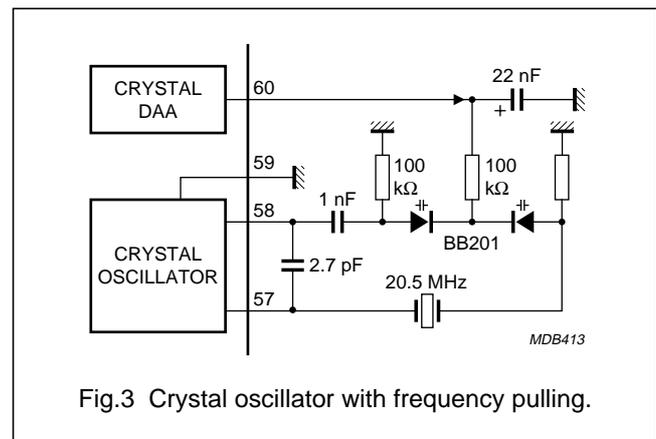

Fig.3 Crystal oscillator with frequency pulling.
- 5-bit DAC for adjustment of the crystal oscillator frequency to align the actual IF frequency to the centre frequency of IF selectivity inside the IF DSP. If the IF DSP can be aligned to the actual IF frequency, this DAA output can be used as general purpose DAC. Figure 3 shows the application of the crystal oscillator with frequency pulling.